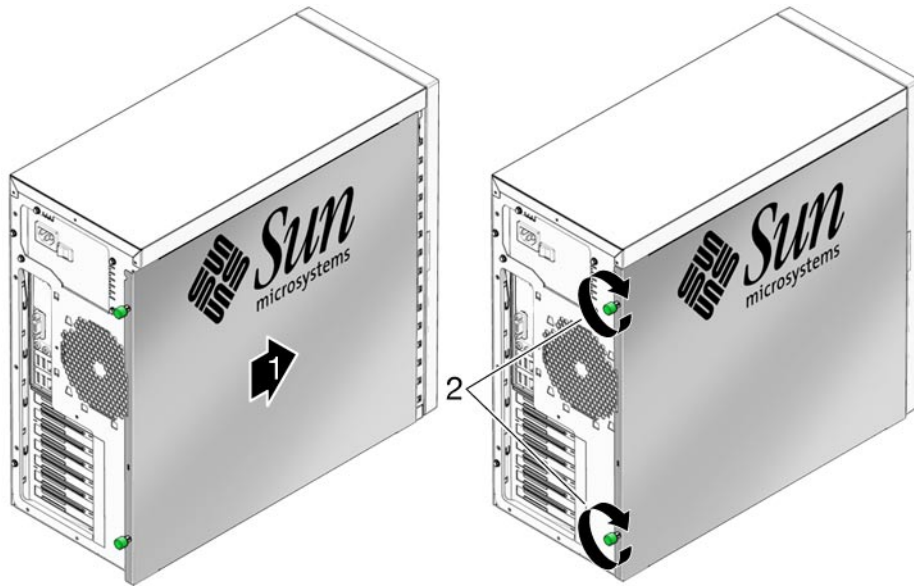

FIGURE 3-4 Installing the Left-Side Access Panel
- 3 Press gently against the side of the access panel and slide the panel toward the front of the chassis. See Figure 3-4.